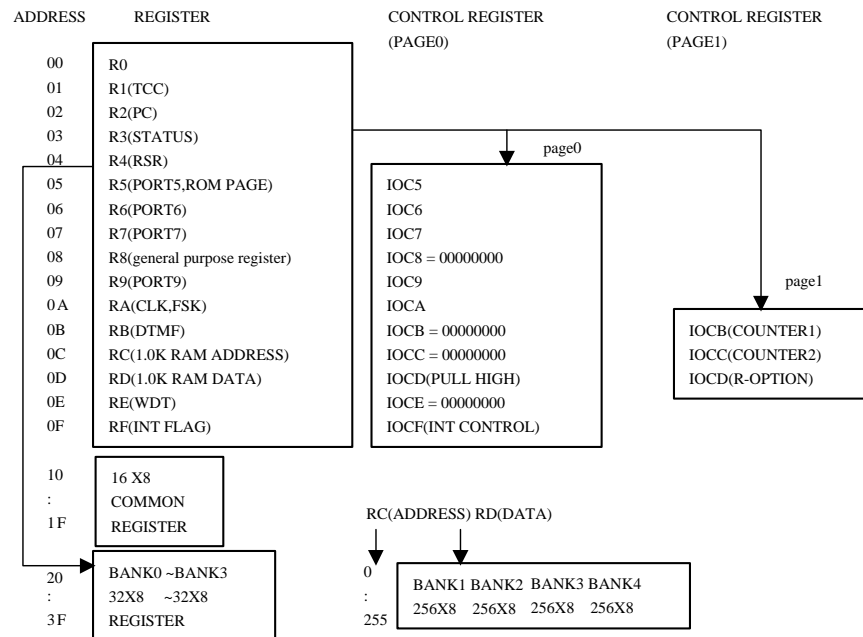

Fig.5 Data memory configuration
- * See the configuration of the data memory in Fig.5.